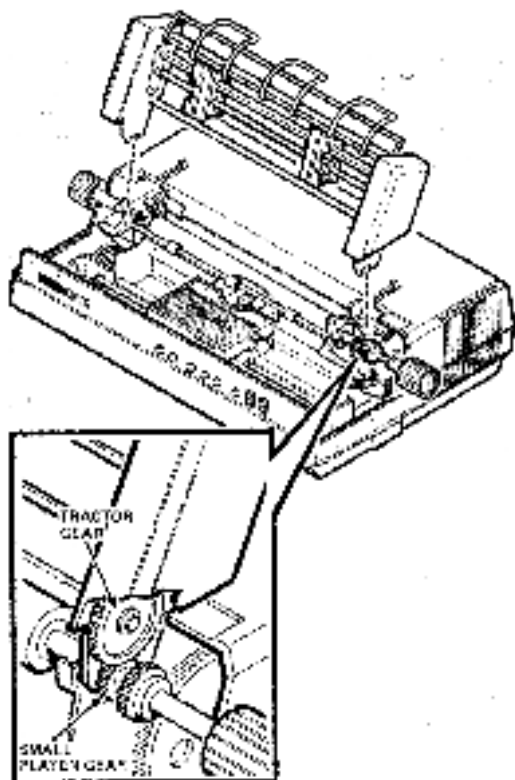

Figure 4-17 Forms Tractor Installation
2. Lower the tractor into position on printer and align the slots in tractor pins with the platen shaft (Figure 4-17).
3. Rotate the platen knob back and forth to check for free up-and-down movement of the tractor pins. The tractor gear should engage smoothly with the small platen gear (Figure 4-17).